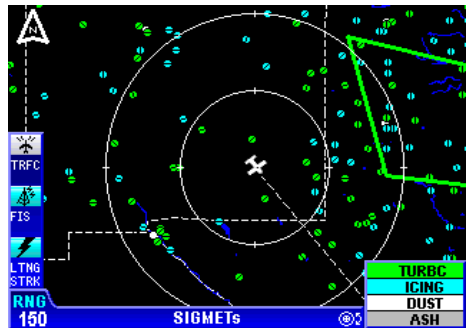

Figure 2-39
1. Press the **WX** Function Select Key until the FIS Graphics Page is displayed. If necessary, turn the Rotary Knob to obtain the Graphical SIGMETs display similar to Figure 2-39. **SIGMETs** will be displayed at the bottom of the display.